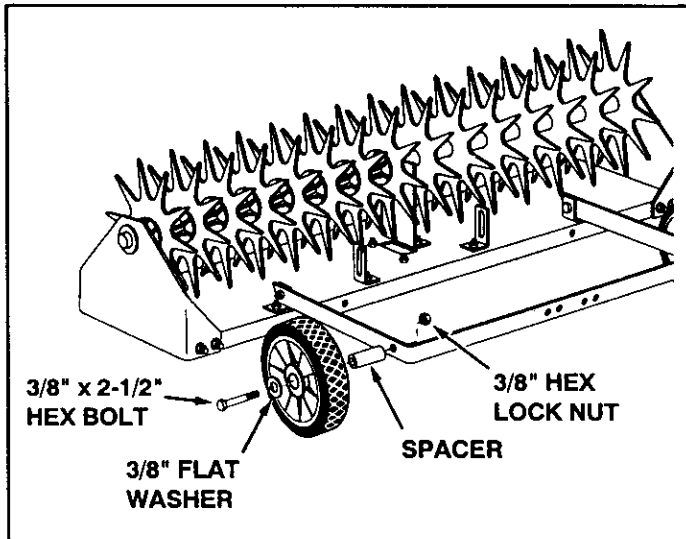

FIGURE 3 REAR VIEW
- Assemble the wheels to the axle bracket using a spacer, a 3/8" x 2-1/2" hex bolt, a 3/8" flat washer and a 3/8" hex lock nut for each wheel. **Tighten.** See figure 3.